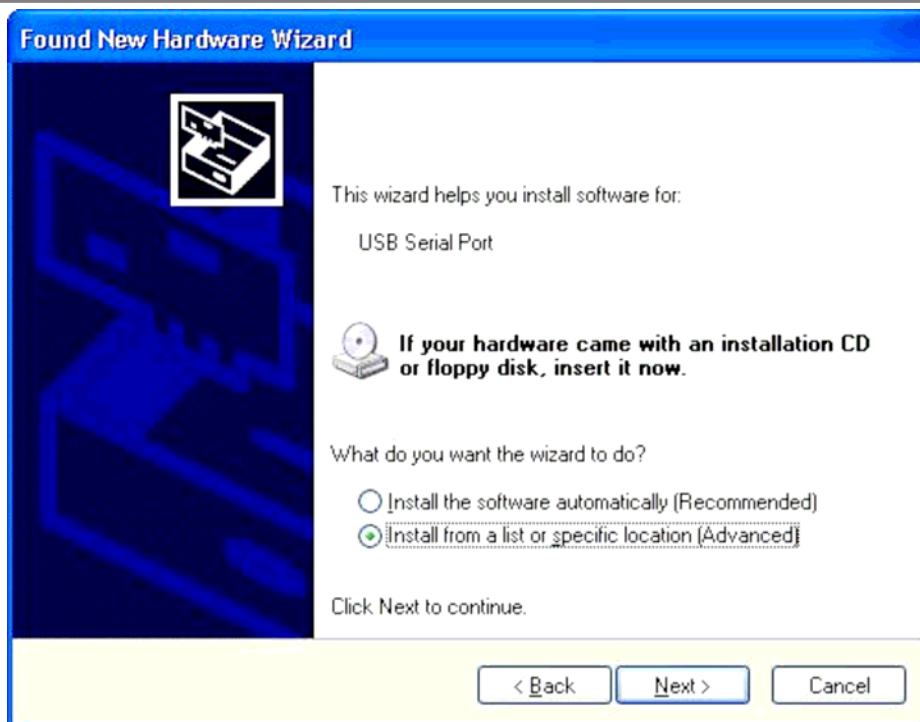

Figure 2.7
- Select "Install from a list or specific location (Advanced)" as shown in Figure 2.7 below and then click "Next".